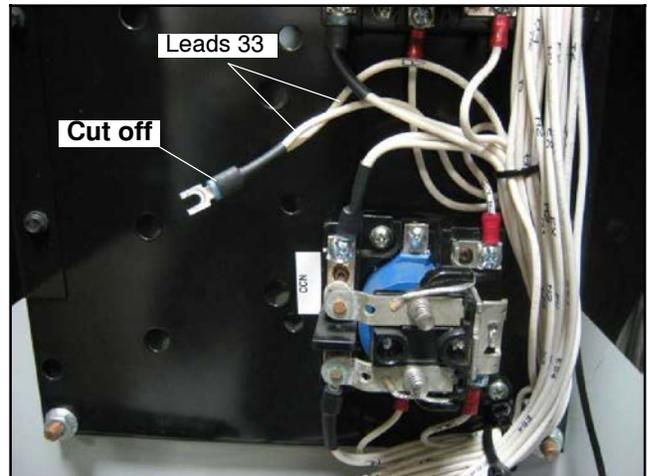

Figure 41 Cut Off Terminal
- Separate the leads labeled 33 from the harness. Cut the forked terminal from the end of the longer lead 33. See Figure 41. Discard the short jumper leads that were connected between the relays.